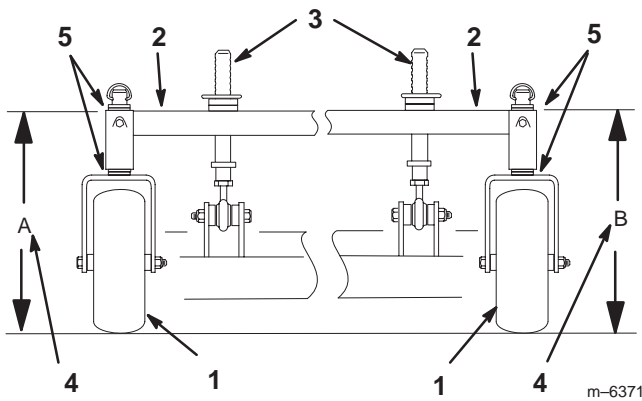

Figure 63
- Measure carrier frame height at location **A** (Fig. 63).
- Measure carrier frame height at location **B** (Fig. 63).